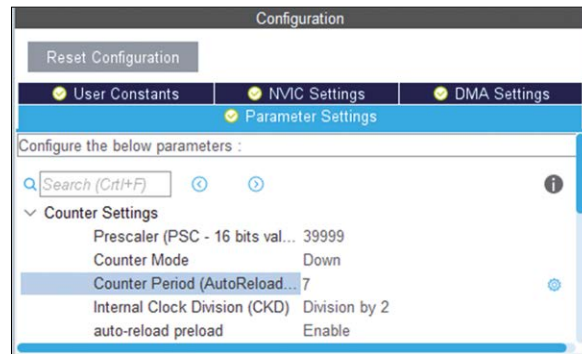

Figure 6.5: Timer settings.
- Figure 6.5 shows the settings.